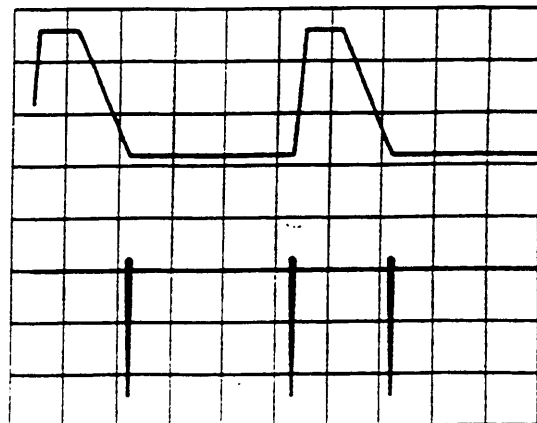

Figure 7. Loop Amplifier +0.4 Vdc Lock-Up.
7. Change the frequency of the Signal Generator to 850 MHz. Verify that the oscilloscope display shown in Figure 7 is correct. Note the lock-up point of approximately +0.4 Vdc on the Channel A display and that lock-up occurs on the first beatnote detected during ramp down of the Loop Amplifier.